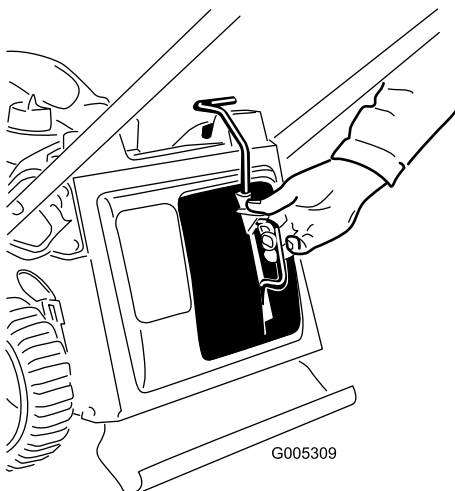

Figure 33
3. Insert the mulch plug (Figure 33).